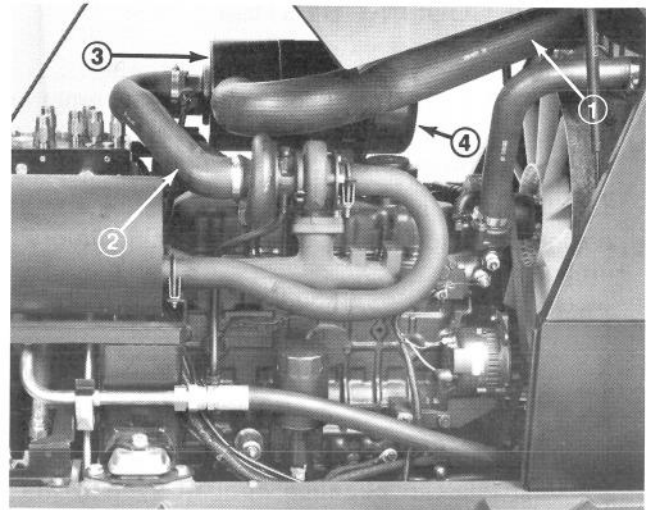

Figure 40
2. Assure inlet hose between upper radiator support and air cleaner and outlet hose between air cleaner and turbo-charger are not cracked or punctured and hose connections are secure (Fig. 40). Replace or repair, as necessary.
4. Insure dust cup/body area is completely sealed (Fig. 40).